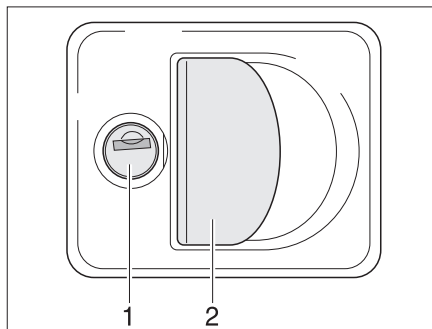

Fig. 51 Flap lock with recessed handle
- Insert key into locking cylinder (Fig. 51,1) and turn a quarter turn. The flap lock is unlatched.
- Pull on the lock handle (Fig. 51,2). The external flap is open.